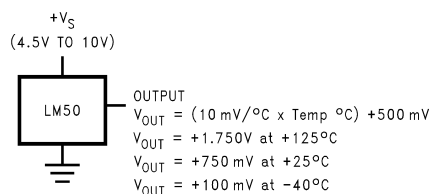

FIGURE 1. Full-Range Centigrade Temperature Sensor ( $-40^{\circ}\text{C}$  to  $+125^{\circ}\text{C}$ )
Unless otherwise noted, these specifications apply for VS = +5 VDC and ILOAD = +0.5 μA, in the circuit of Figure 1. **Boldface limits apply for the specified TA = TJ = TMIN to TMAX**; all other limits TA = TJ = +25°C, unless otherwise noted.
**Note 9:** Quiescent current is defined in the circuit of Figure 1.
**Quiescent Current vs Temperature (Figure 1)**